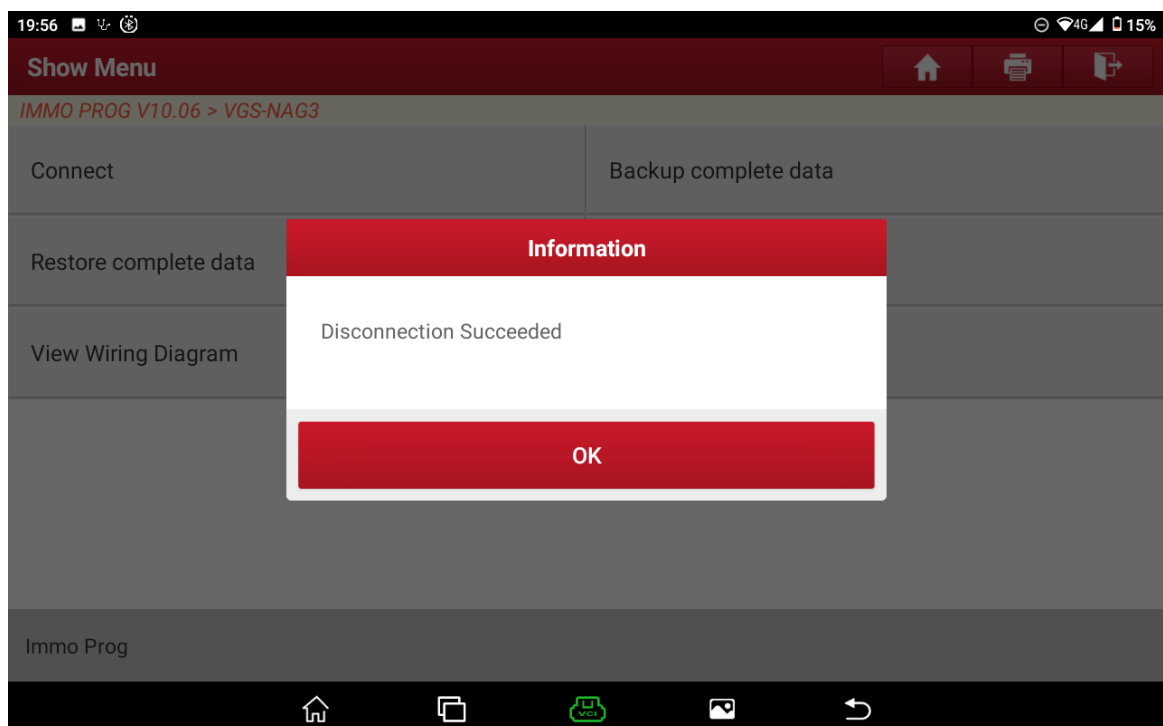

Figure 12
- Click [Disconnect] to disconnect the original car gearbox from the immobilizer programmer, as shown in Figure 12.